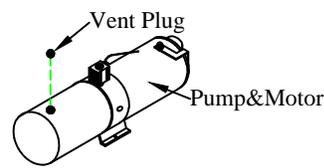

Figure 19: Vent plug.
- 2. Unscrew** the solid plastic plug from the pump reservoir and **Install** the vent plug provided (Figure 19).